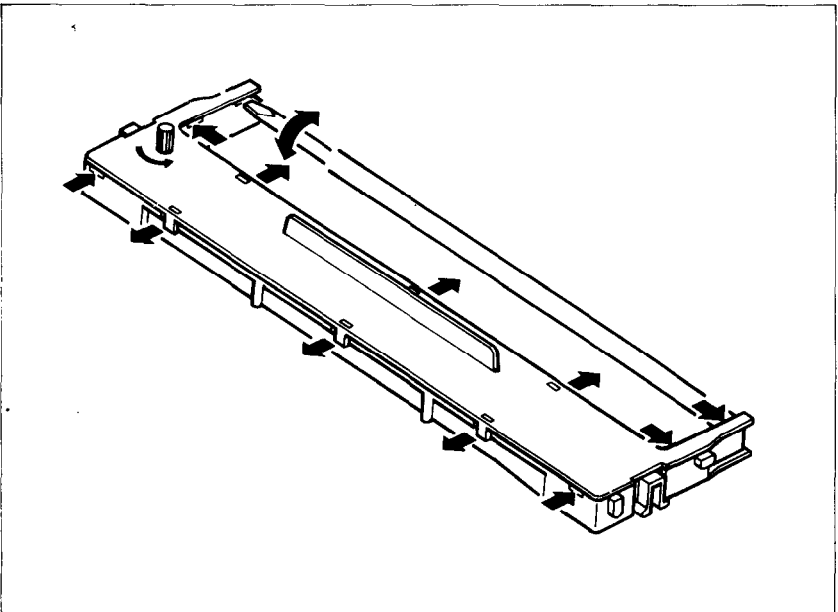

Figure 8-1. Use a screwdriver to pry open the cartridge.
3. Unhook the six tabs of the cartridge cover carefully (Figure 8-1).
4. Using a screwdriver with a thin blade, pry open the cartridge cover. Figure 8-1 shows the numerous slots for inserting a screwdriver.